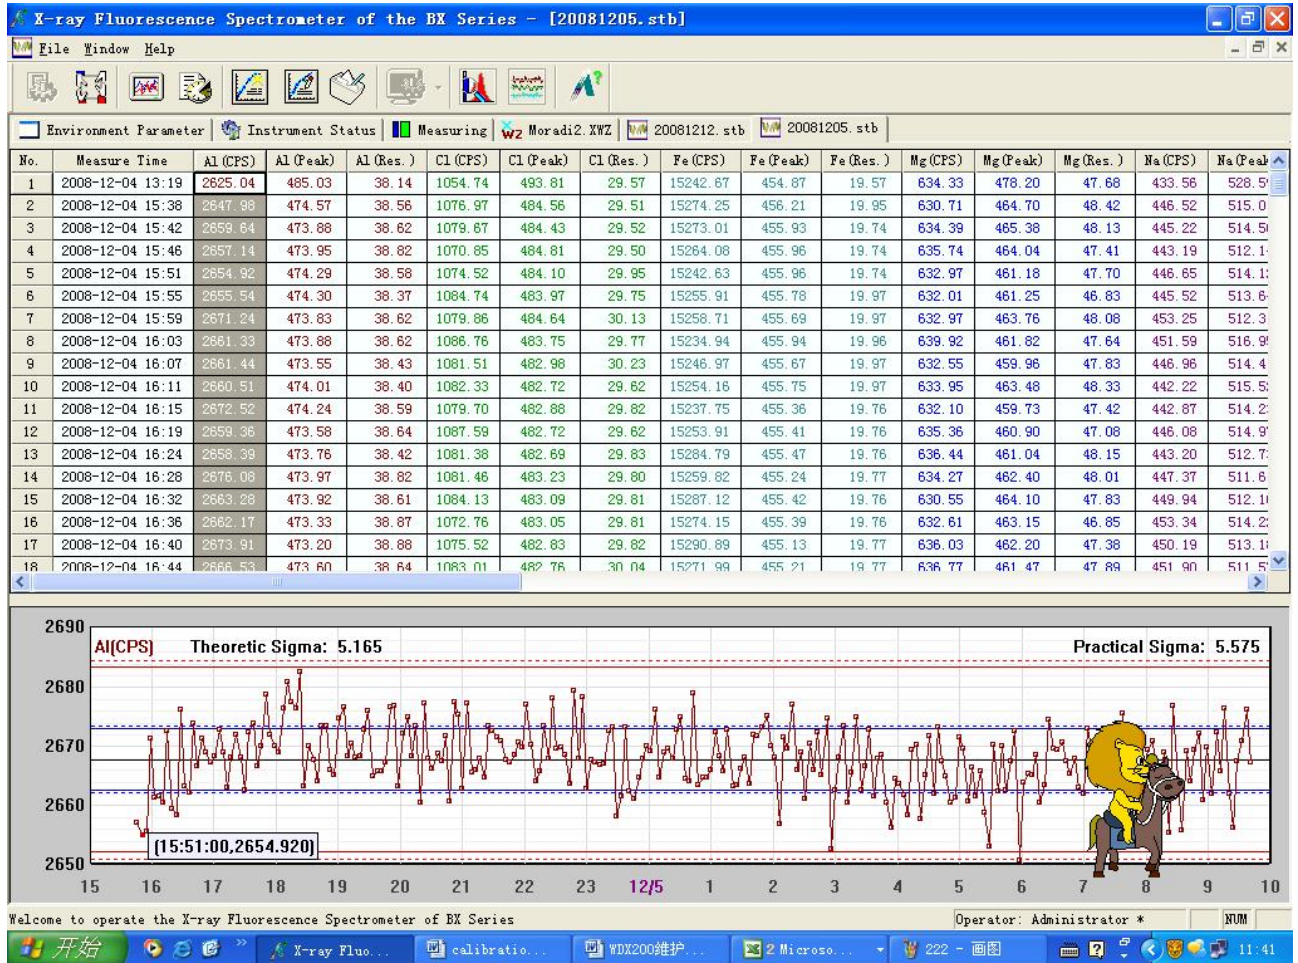

Figure 9-4 Performance Test Record
Click the left and right arrow key below the file table to look up the file name we want to. Reveal it in the blank box behind **the file name (N)**. And then click the **open** button on the right side of the box to open the performance test results under the file names. Figure 9-4 is a performance test opened. Click the **X** button below the upper right corner of the interface to exit this interface and return to the main interface.